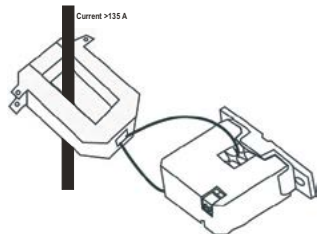

Figure 4: CTC with CT Transformer
Use a 5 A Current Transformer (CT) to reduce current passing through the CTC as shown in Figure 4. Run the current transformer secondary wire through the sensing hole. Terminate the 2 secondary wires of the 5 A current transformer to each other, and then install the 5 A current transformer on the monitored conductor. Set the CTC for lowest amperage range (20 or 30 A).